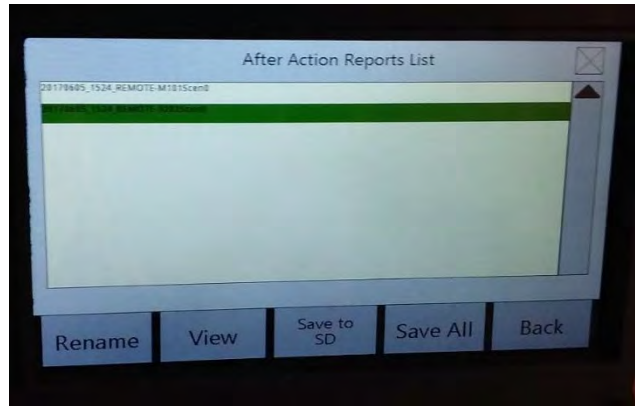

Figure 12
- **Save to SD:** If an SD card is inserted, the Save to SD option appears. When the file has successfully been saved, it gains a green highlight (Figure 12). Files are saved in the TFXData folder in a new subfolder based on the Date and Time the SD card was inserted